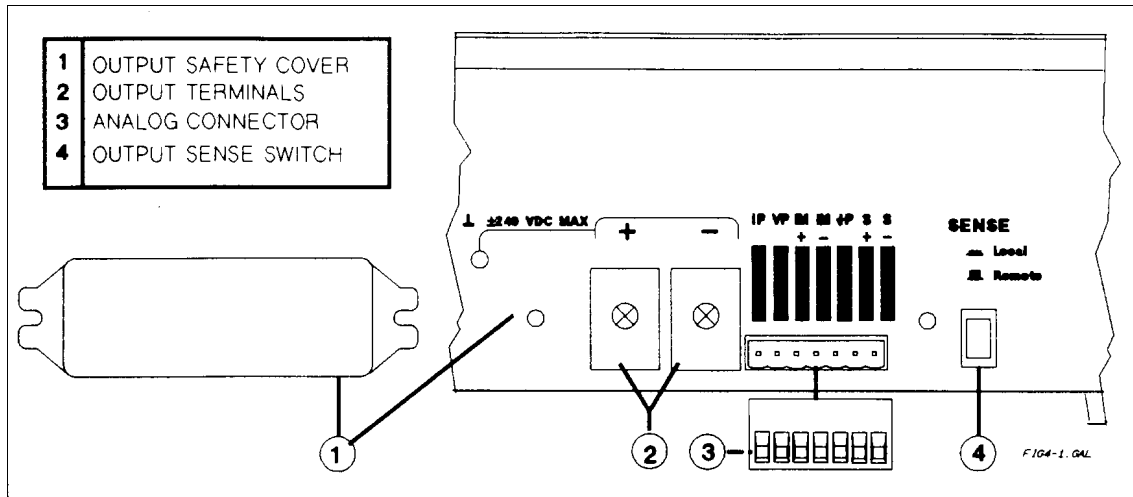
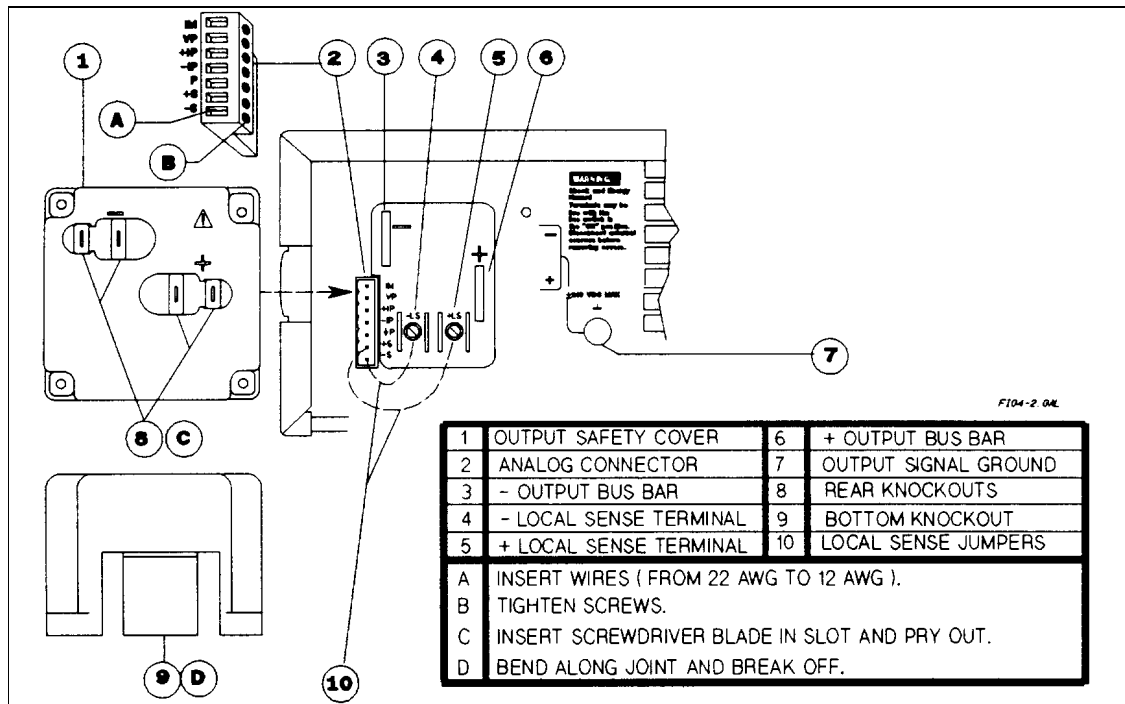

Figure 4-1. Series 654xA and 655xA Rear Panel Connections
Figure 4-2. Series 657xA Rear Panel Connections
The + and - load connections are made at the rear panel. Depending on the model (see Figure 4-1 or Figure 4-2), either terminals or screw-down bus bars (+ and -) connect the load to the power supply. The general procedure is as follows:
- make a suitable opening in the output safety cover by removing one or more cover knockouts (see Figure 4-2).
If cabling considerations require the use of distribution terminals that are remotely located from the supply, connect the output terminals to the distribution terminals by a pair of twisted or bundled wires. Use separate wires for connecting each load to the distribution terminals. In these circumstances, remote voltage sensing is recommended (see "Remote Voltage Sensing"). Sense either at the remote distribution terminals or, if one load is more critical than the others, directly at the critical load (see dashed lines in Figure 4-1). Note that the power supply's voltage readback occurs at the sense terminals.
Local sensing is obtained by placing the **SENSE switch** (see Figure 4-1) in the **Local** position. The power supply is shipped with the switch in this position.